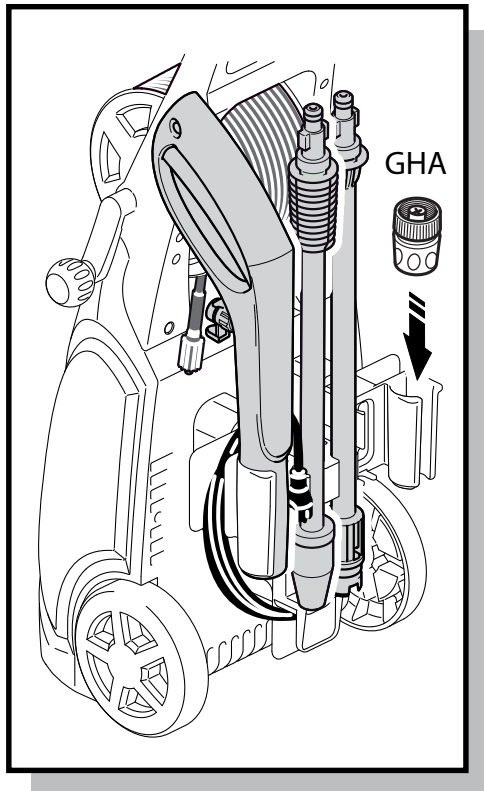

Fig. 3
- Please refer to (Fig. 3) for accessory storage locations on the accessory holder.